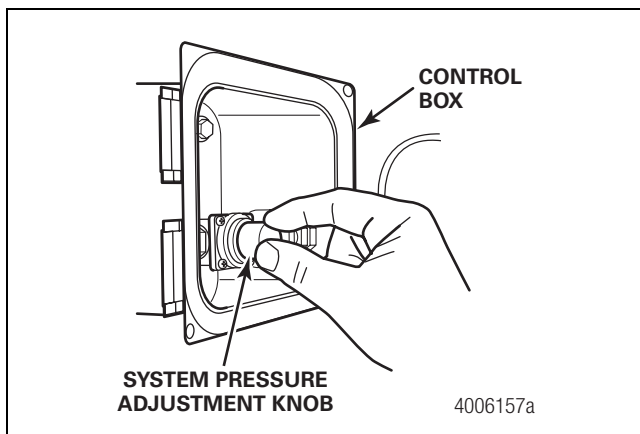

Figure 3.9
- **To increase the tire pressure:** Pull the system adjustment knob out, then turn the knob **CLOCKWISE** approximately 1/8 turn (45 degrees). Hand-tighten the hose to the through-tee. Do not use pliers. Repeat Step 10 and Step 11. When complete, lock the knob by pushing it inward. Figure 3.9.
- **To decrease the tire pressure:** Reduce the pressure on the test-tire 5 to 10 psi below the desired air pressure. Pull the system adjustment knob out, then turn the knob **COUNTERCLOCKWISE** approximately 1/8 turn (45 degrees). Hand-tighten the hose to the through-tee. Do not use pliers. Repeat Step 10 and Step 11. When complete, lock the knob by pushing it inward. Figure 3.9.